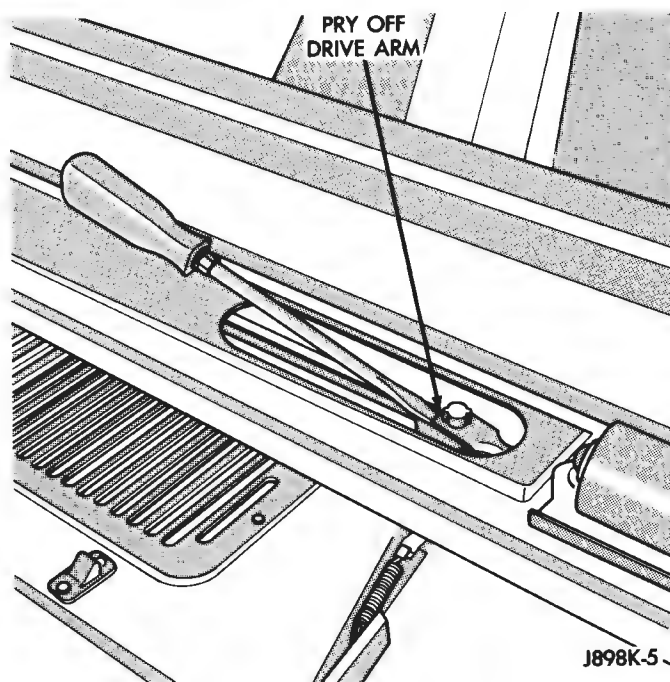

Fig. 8 Disconnect Drive Link
(6) Disconnect wiper drive link (Fig. 8).
(7) Remove motor wiring clip from base of windshield frame.
(8) Remove 4 inboard screws holding seal to bottom of windshield frame (protruding screw ends interfere with pivot and connecting link removal and installation).